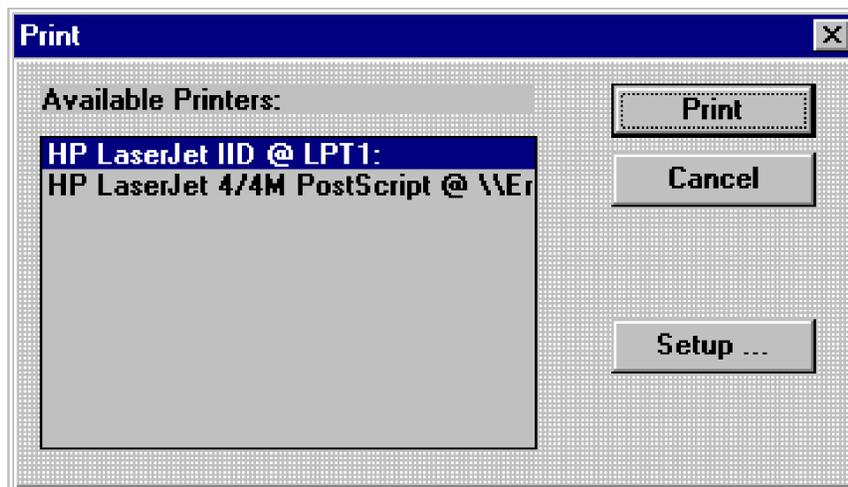

Figure 4-14. Dialog box for printing a graph
If you have a report open, a dialog box will come up for printing, listing the available printers (Figure 4-14).
3. Select [Print] in the Print dialog box to print the report to the listed printer (see Figure 4-14).